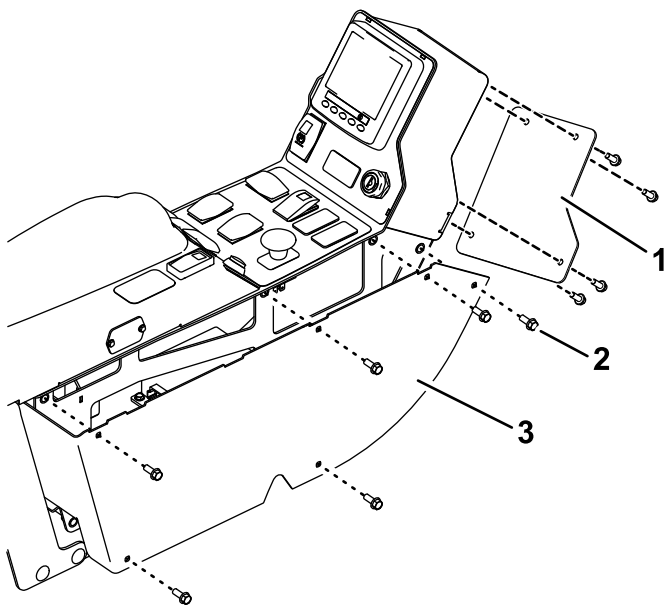

Figure 3
1. Remove the 6 bolts from the side panel and remove the side panel from the console (Figure 3).
2. Remove the 4 bolts from the back panel and remove the back panel from the console (Figure 3).
3. Use the previously removed bolts to install the back and side panels to the console (Figure 3).